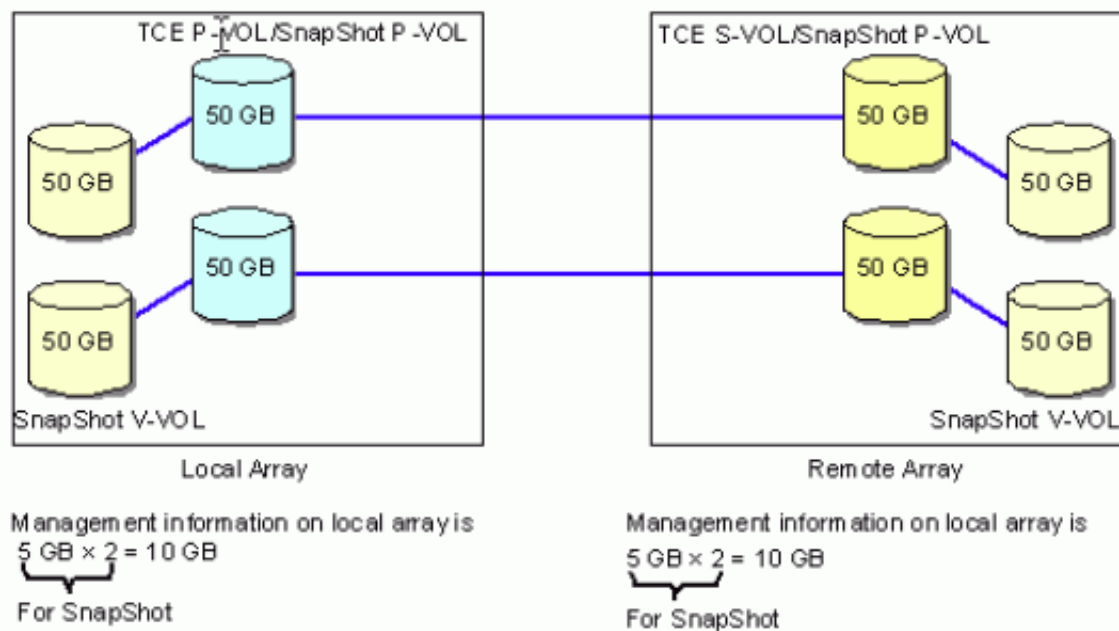

Figure 9-3: Snapshot-TCE cascade configuration
3. If you create a Snapshot-TCE cascade configuration, the management information for Snapshot is only needed as listed in Table 9-2 on page 9-10 through Table 9-4 on page 9-11. See Figure 9-3 on page 9-9 for an example.